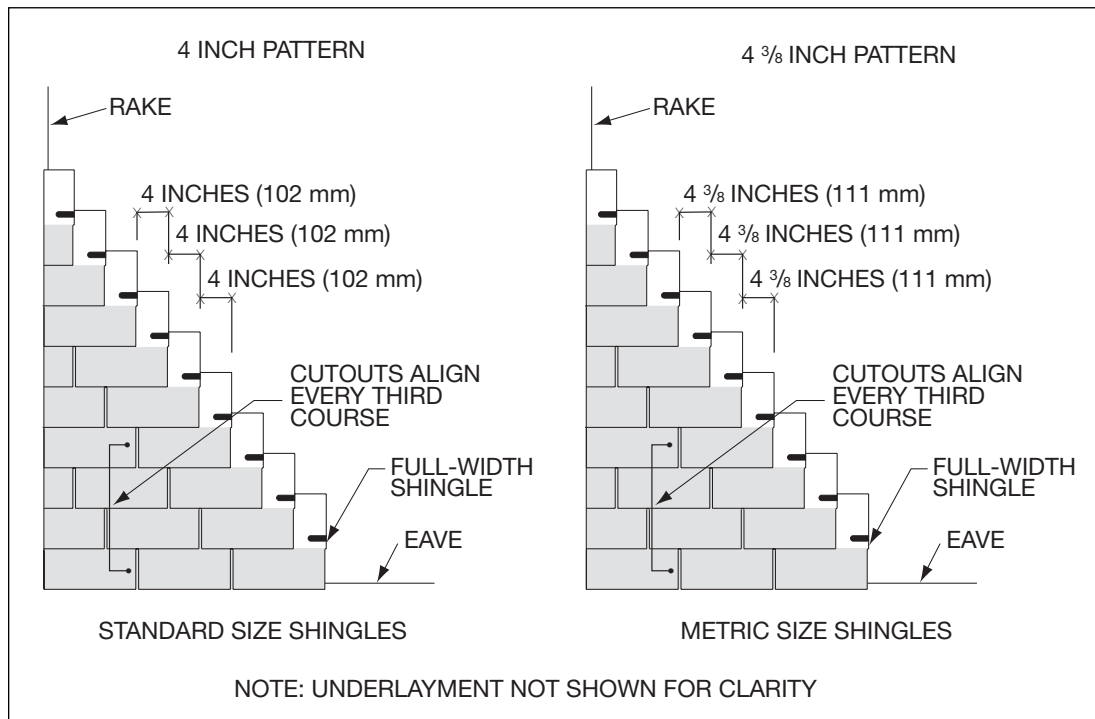

Figure 9: Example of aesthetics of a 4-inch pattern
- Cutouts that break joints on thirds, or the 4-inch method — A cutout is the section of a three-tab asphalt shingle that has been cut out at a factory to separate individual tabs. For standard size shingles, the offset pattern is achieved by offsetting the consecutive shingle courses by 4 inches (102 mm) as shown in Figure 9. For metric-sized shingles, the offset pattern is achieved by offsetting each consecutive course 112 mm (4 $\frac{3}{8}$  inches). Cutouts are also referred to as key-way or water-slots. However, it is the gauging of these cutouts in neighboring shingle courses that gives a shingle roof system a particular pattern. See Figure 9.